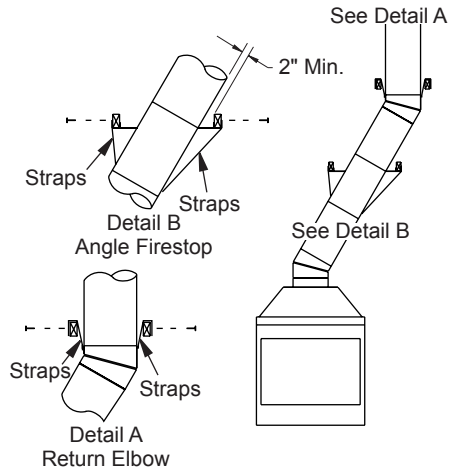

Figure 11 - Ceiling Support Pipe 12S-12DM
- Chimney weight above offset rests on return elbow. Straps must be securely nailed to rafters or joists (see Figure 11, details A and B).